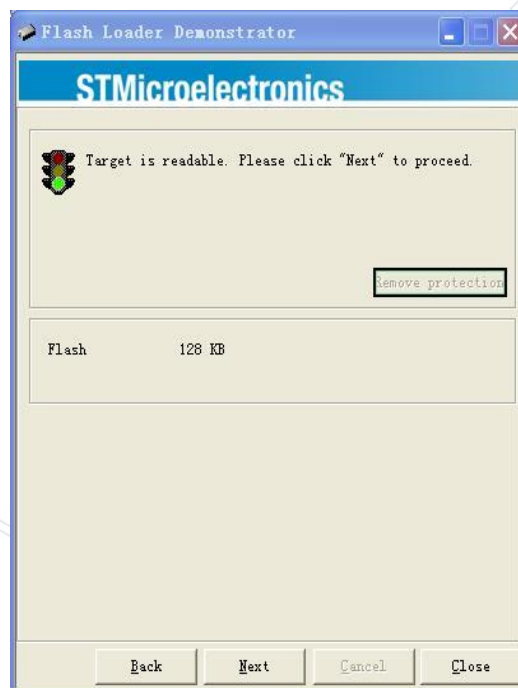
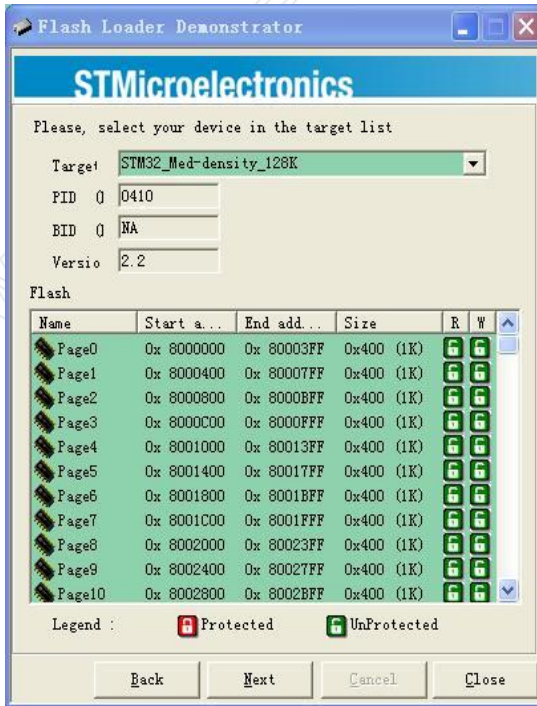

Fig. 6
Fig. 7
- 4) If there is no error you should see Fig. 6. This is a temporary state showing that the PC has successfully detected bootloader and whether the chip flash memory is readable. If you have problem to reach this state you can try resetting the MCU by switching off the DSO and switching on again. If that still doesn't work check connections and BOOT0/BOOT1. [**Hint: It is a good try to swap TXD and RXD since these denotation are often confusing.**] Otherwise, click on Next to proceed to the next step as shown in Fig. 7.
- 5) Fig. 7 shows information about the MCU type and its flash memory. You just need to make sure the selection at Target dropdown is the same as shown in Fig. 7. Then click on Next to proceed to next step.